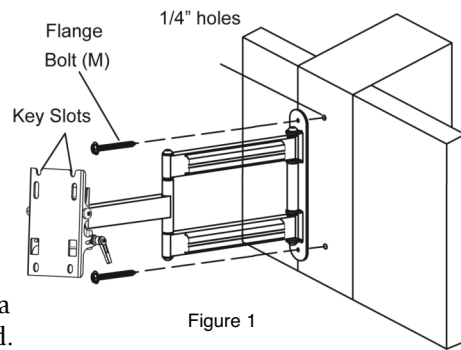

Figure 1
- Insert two flange bolts (M) into holes through the wall plate and tighten down. Be sure the Wall Arm Assembly is mounted with the key slots pointing upwards (See Figure 1).